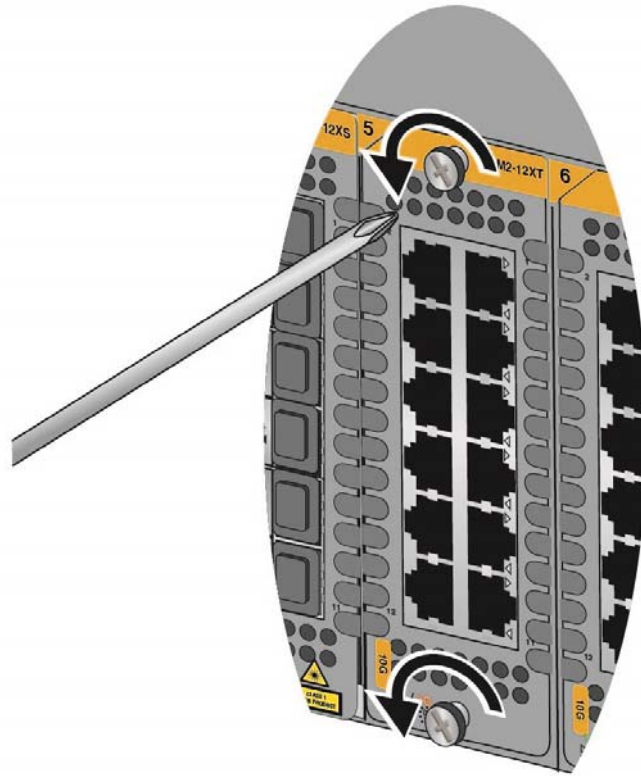

Figure 118. Loosening the Screws on the Ethernet Line Card
4. Use a #2 Phillips-head screwdriver to loosen the two screws on the faceplate of the card. Refer to Figure 118 on page 163.